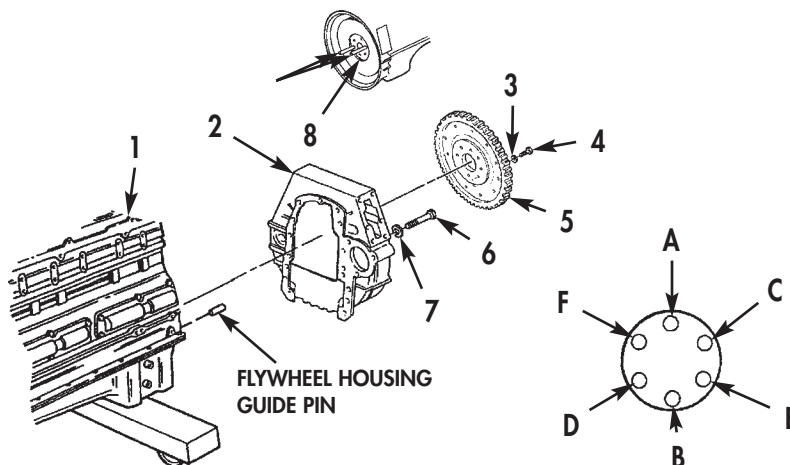

Figure 4. Big Cam I Flywheel Housing and Flywheel Installation.
4. Install two flywheel housing guide pins on Big Cam III engine (1).
5. Install Big Cam I flywheel housing (2) on Big Cam III engine (1) with seven of nine screws (6) and washers (7). Tighten screws (6) 10–20 lb-ft (14–27 N•m).
6. Remove two flywheel housing guide pins from Big Cam III engine (1) and install two remaining screws (6) and washers (7) on Big Cam I flywheel housing (2). Tighten screws (6) 10–20 lb-ft (14–27 N•m).
7. Install two 5/8–18x6 in. guide studs in opposite holes on Big Cam III crankshaft (8) until fully seated.
8. Apply lubricating oil to threads of screws (4) and face of washers (3). Allow excess oil to drain from screw threads.
9. Install Big Cam I flywheel (5) on Big Cam III crankshaft (8) with four screws (4) and washers (3). Tighten screws (4) hand-tight in sequence shown in figure 4.
10. Remove two guide studs and install two remaining screws (4) and washers (3) on Big Cam I flywheel (5). Tighten screws (4) 70 lb-ft (95 N•m) then 140 lb-ft (190 N•m) and finally 200–220 lb-ft (271–298 N•m) in sequence shown in figure 4.